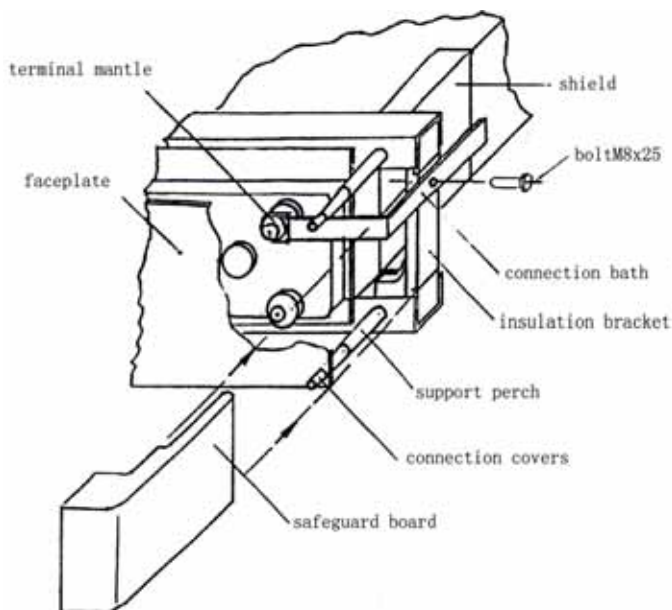

Fig 4
2.5 Installing terminal plate and angle shelves (Fig 4)